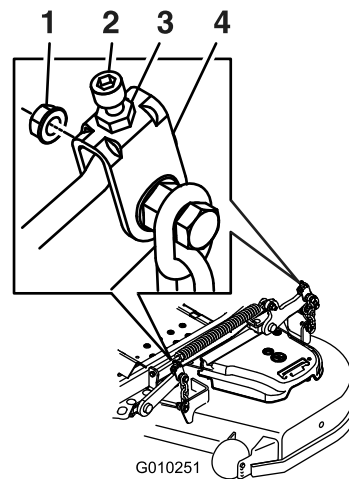

Figure 95
11. For mower decks shown in Figure 95, fine-tune the adjustment nut on the front deck lift assembly by turning it (Figure 95).